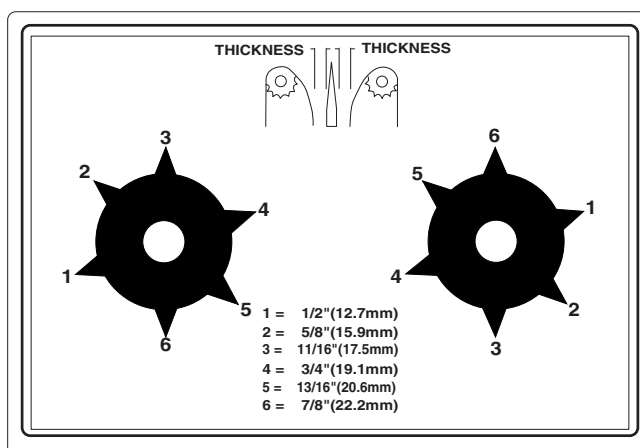

Figure 3. Bun Thickness Adjustment Controls
1. Set the Bun Thickness Adjustment Controls (Figure 3).